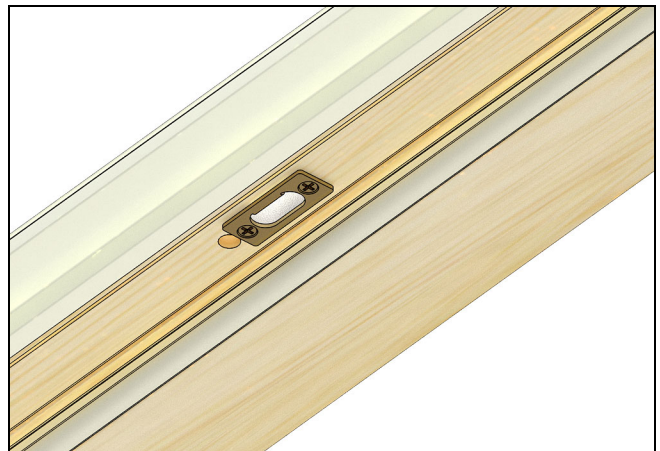

Figure 20
2. On all side jamb and head jamb strike plates, remove and replace the screws fastening the strike to the frame with the longer screws and drive into the rough opening frame as shown in Figure 19 and Figure 20. Screws will stay intact on the head jamb strike plate and two #10 installation screws as shown in Figure 20. Fasten a #10 x 3" installation screw through the stationary panel retainer.